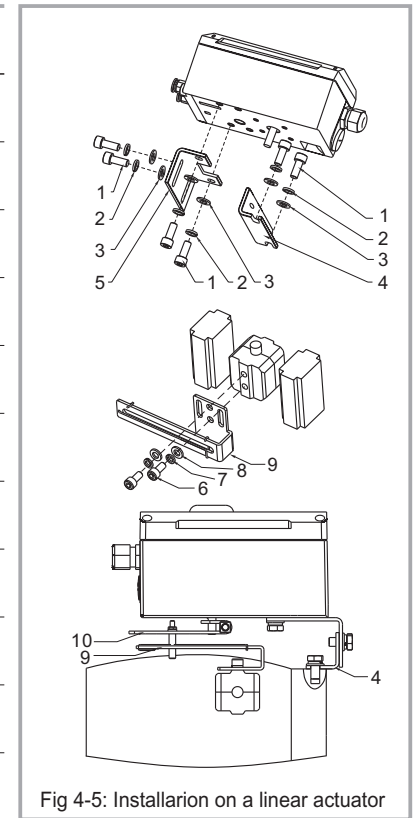

Fig 4-5: Installation on a linear actuator
The positioner mounting on the front of the actuator, with the adjustable connection by the feedback lever and feedback bracket(Fig. 4-5),The installation steps as followings:
Fix the positioner bracket (Fig. 4-5/⑤) to the positioner with inner-hexagon head screws(Fig. 4-5/①), spring washers (Fig. 4-5/②) and washers (Fig. 4-5/③).
Fix the actuator bracket (Fig. 4-5/④) to the actuator with inner-hexagon head screws(Fig. 4-5/①), spring washers (Fig. 4-5/②) and washers (Fig. 4-5/③).
Fix the feedback bracket (Fig. 4-5/⑨) to the actuator with inner-hexagon head screws(Fig. 4-5/⑥), spring washers (Fig. 4-5/⑦) and washers (Fig. 4-5/⑧).
Fix the feedbacklever(Fig. 4-5/⑩) to the feedback shaft of positioner through fasten screw.
Fix the positioner to the actuator with inner-hexagon head screws(Fig. 4-5/①), spring washers (Fig. 4-5/②) and washers (Fig. 4-5/③).
After installation, please fine-tune the position of the actuator bracket (Fig. 4-5/④) and feedback bracket(Fig. 4-5/⑨) to make sure that the feedback lever(Fig. 4-5/⑩) is horizontal when the valve is 50% opened. See the solid line in Fig. 4-5.